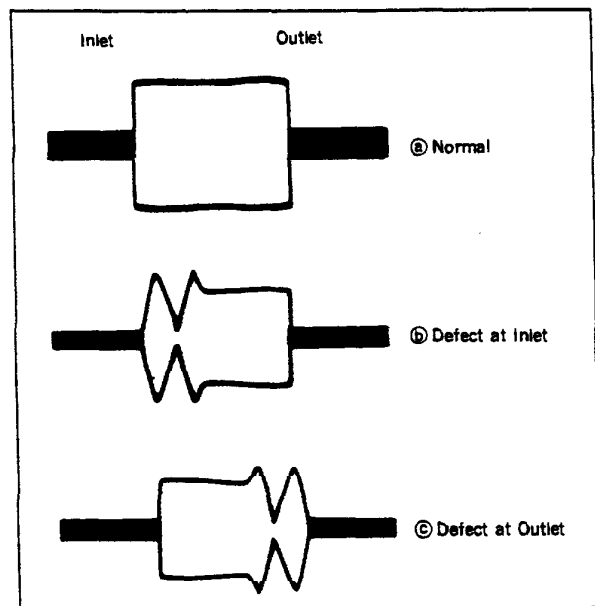
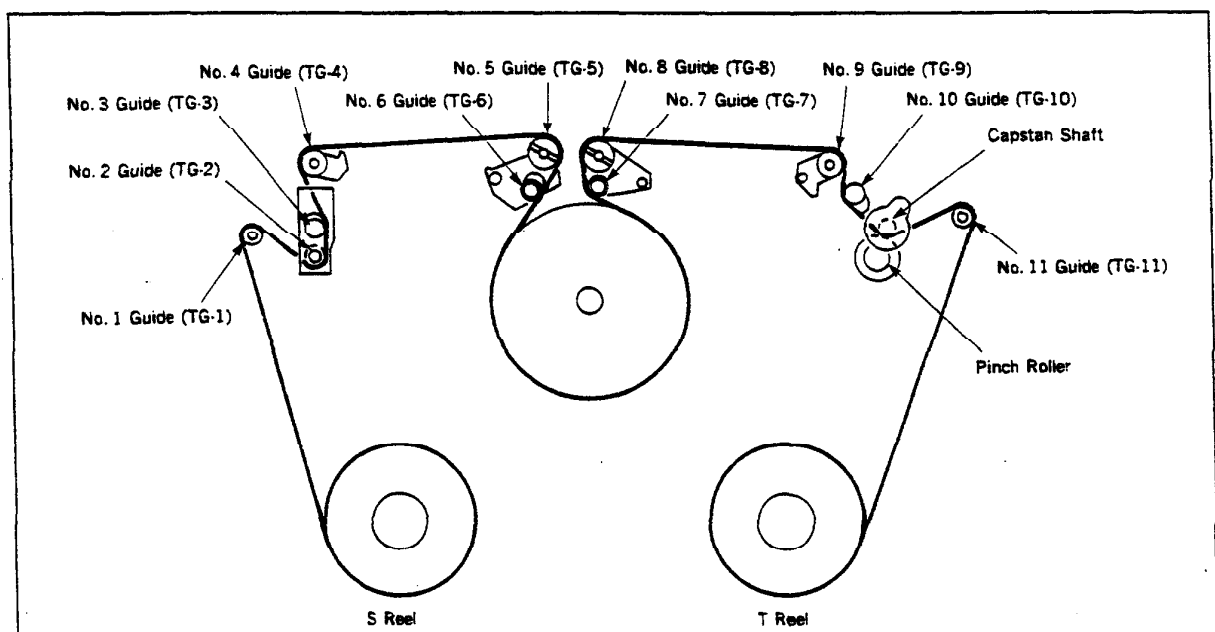

Fig. 50
Fig. 51 Tape Guides Location
- 1) Clean the tape running surfaces (tape guides, drum, capstan shaft, pinch roller). (Fig. 51)
- 2) Set the PATH mode by shorting the TEST pins (CN404 pins ① and ④ for CCD-V11/V88).
- 5) Check that a RF waveform is flat at the inlet and outlet of the oscilloscope. (Fig. 50 ③)
When the RF waveform is not flat at the inlet/outlet ; (Fig.50 ⑤ and ⑥)